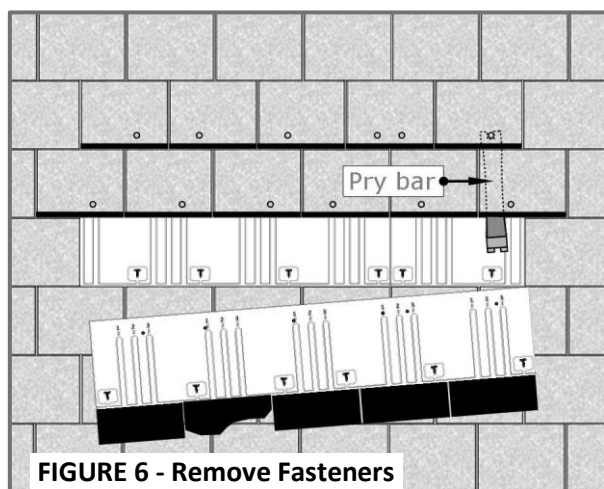

FIGURE 6 - Remove Fasteners
- Use a pry bar to remove each fastener before removing the damaged shingle. See **Figure 6**.